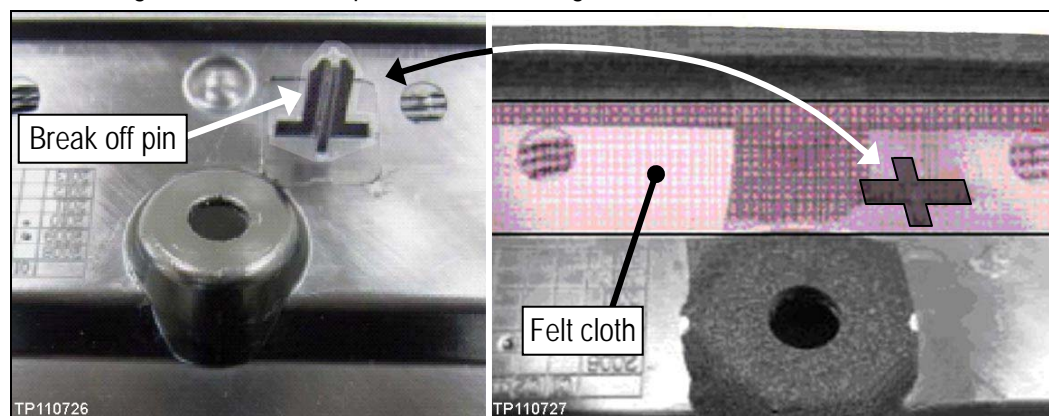

Figure 25f
27. Break off the locator pin flush, and then apply a piece of felt cloth tape where broken off (see Figure 25f).